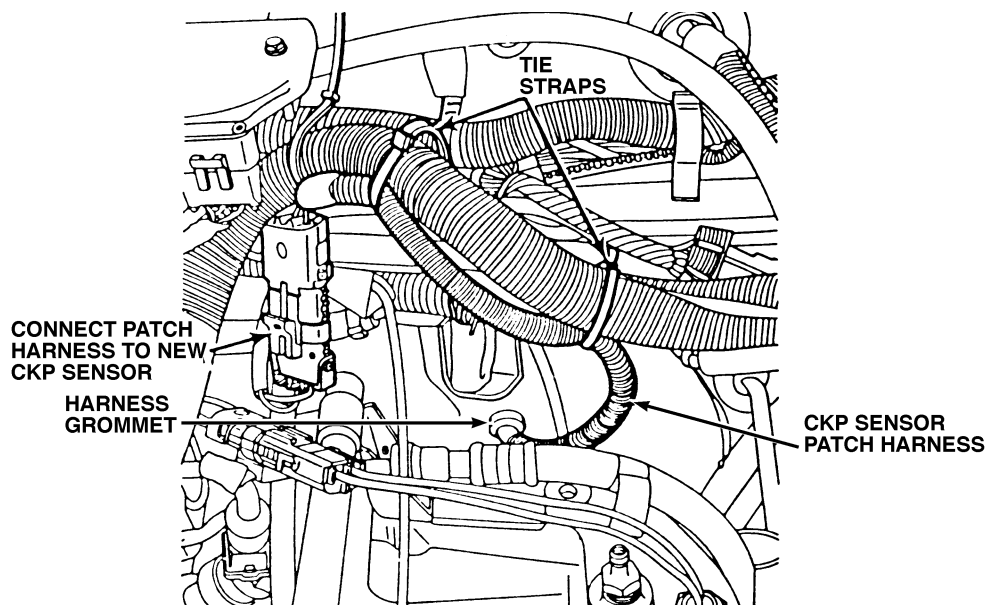

Figure 6.
17. From inside the engine compartment, insert the ECM end of the new CKP sensor patch harness through the drilled hole in the firewall (Figure 6). Install and fully seat the new harness grommet that came in the kit into the drilled hole.